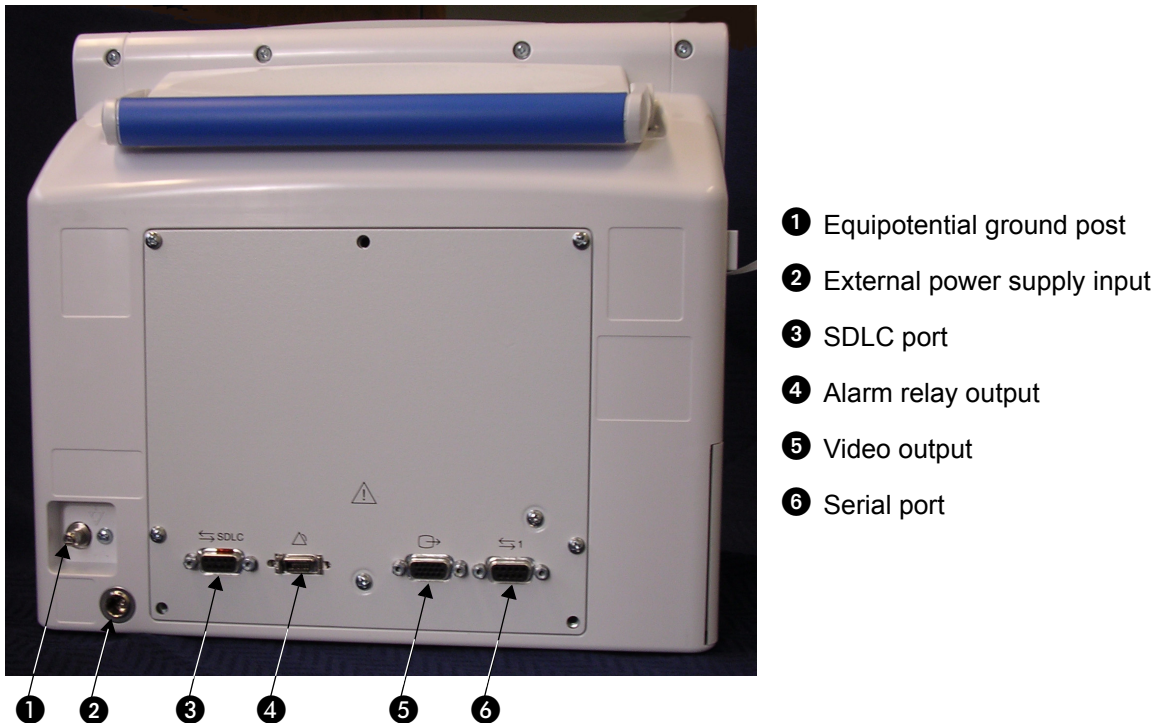
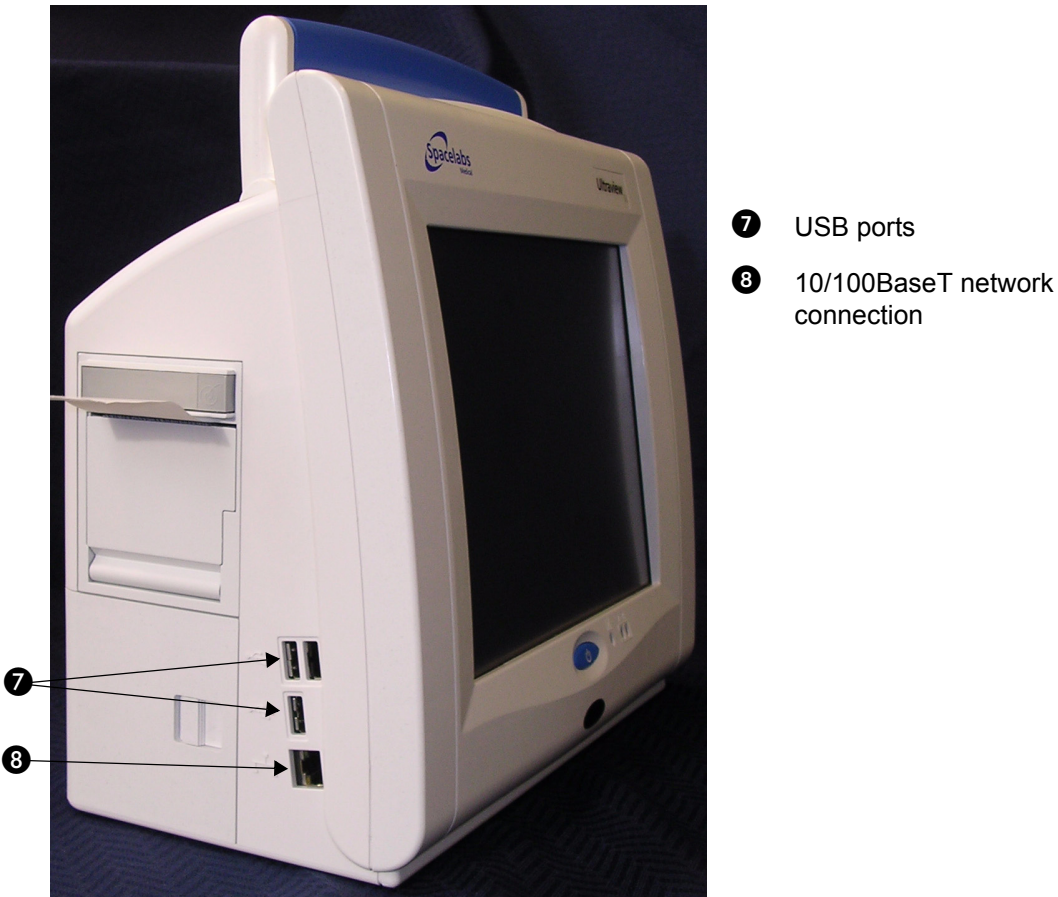

Figure 2-3: Rear panel connections
Figure 2-4: Side panel connections
Refer to *Figure 2-3* for available connections on the monitor's rear panel. Refer to *Figure 2-4* for available connections on the monitor's side panel.
- 6 Attach the 10/100BaseT LAN transceiver cable into the RJ45 connector on the left side of the monitor (8 in *Figure 2-4* on page 2-6).
To remove a monitor from the LAN, disconnect the network cable from the 10/100BaseT network connection (8 in *Figure 2-4* on page 2-6).